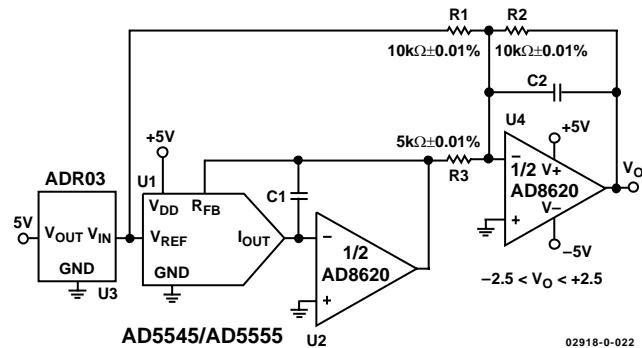

Figure 23. Four-Quadrant Multiplying Application Circuit
In some applications, it may be necessary to generate the full 4-quadrant multiplying capability or a bipolar output swing. This is easily accomplished by using an additional external amplifier, U4, configured as a summing amplifier (see Figure 23). In this circuit, the second amplifier, U4, provides a gain of 2, which increases the output span magnitude to 5 V. Biasing the external amplifier with a 2.5 V offset from the reference voltage results in a full 4-quadrant multiplying circuit. The transfer equation of this circuit shows that both negative and positive output voltages are created because the input data (D) is incremented from code zero ($V_{OUT} = -2.5\text{ V}$) to midscale ($V_{OUT} = 0\text{ V}$) to full scale ($V_{OUT} = +2.5\text{ V}$).